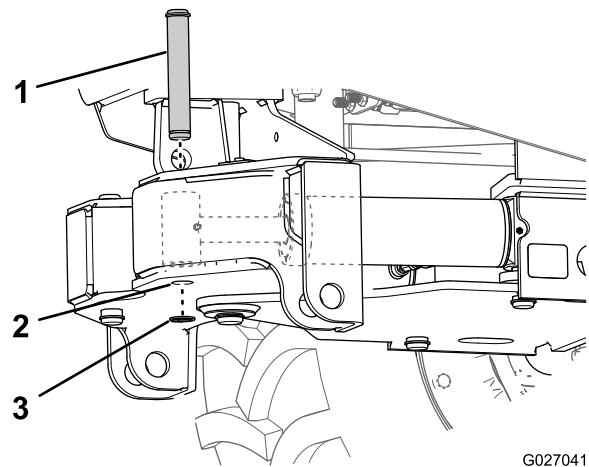

Figure 29
4. Insert a pin (1-1/4 x 7-5/8 inch) through the holes in the pivot frame and rod fittings and secure the pin with a snap ring (1-1/8 inch) as shown in Figure 29.